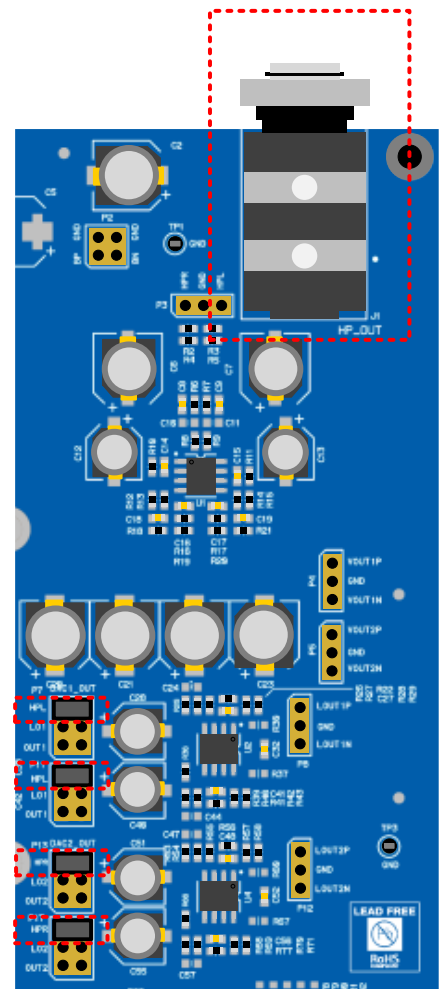

Figure 15: DAC Output to Headphone Output
- HPL/HPR – 1.76  $V_{RMS}$  single-ended headphone output circuit, shown in Figure 15.